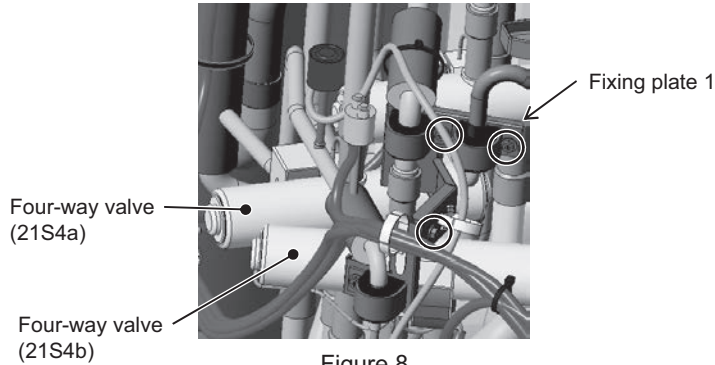

Figure 8
- (1) Remove the front heat exchanger. Refer to 8-13-7 Maintenance Procedures for the Heat Exchanger for details.
- (2) Remove the top, front, and right compressor covers. Refer to 8-13-4 Compressor Replacement Procedure for details.
- (3) Remove the fixing plate 1 above four-way valve (21S4b), saddle, and rubber spacer by unscrewing the three screws shown in Figure 8.